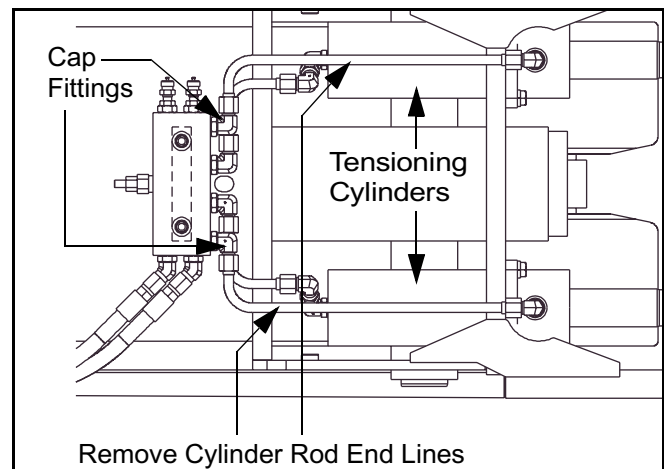

Figure 5 - 32 Track Tensioning Cylinders
- 1) Install pressure gauge (3000 psi) at test ports marked BTM and ROD on the tension release valve (Figure 5 - 31).